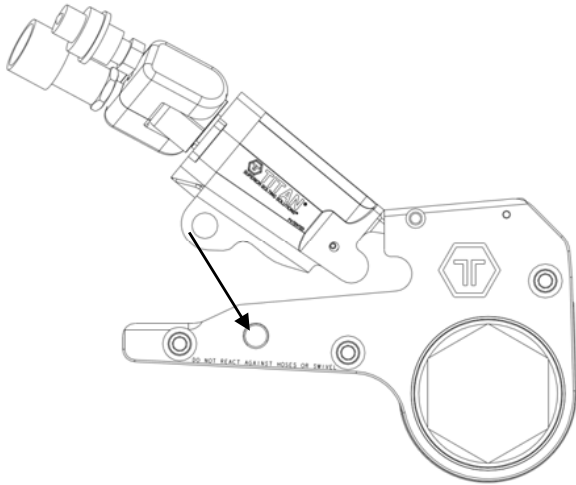

Figure 4 Cylinder and Link Assembly Step 1
1. Align Cylinder and Link as shown in Figure 4.